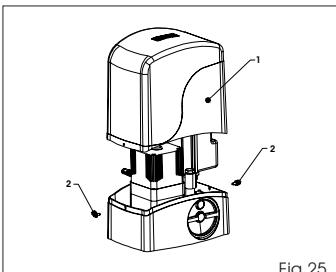

Fig.25
Return the board support to its original position. Fit the cover, Fig. 25 ref. 1, and tighten the two side screws provided, Fig. 25 ref 2.